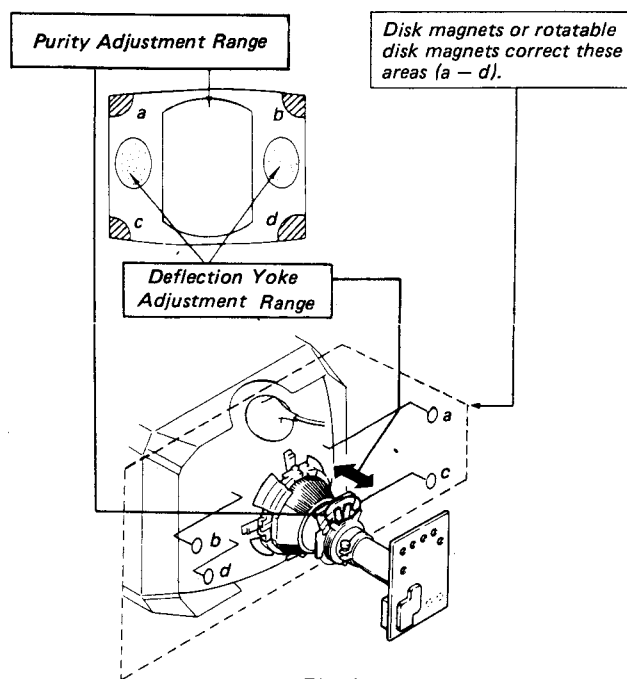

Fig. 3-5
12. Correct with the magnet if the landing in the corners cannot be adjusted. (See Fig. 3-5.)